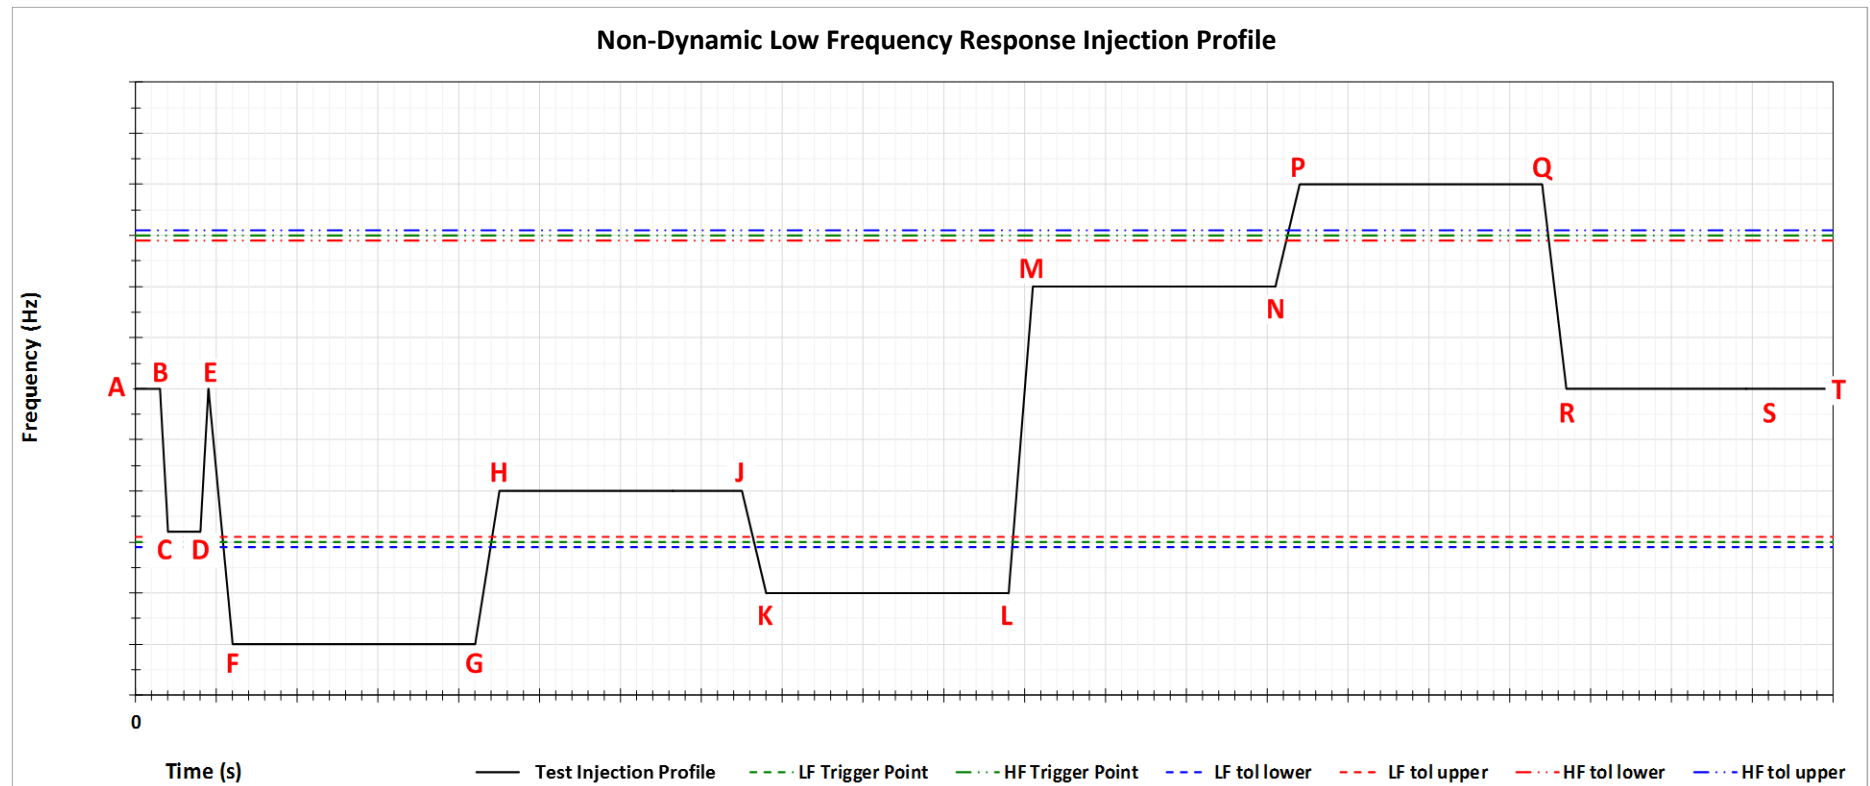

Figure 2.1 – Injection Profile for Low Frequency Non-Dynamic Response Testing
- An acceptable frequency injection profile is used (see Figures 2.1 and 2.2).
- The injected frequency signals used in testing are shown above (Figures 2.1 and 2.2). These show a trigger frequency of 49.7Hz/50.3Hz.